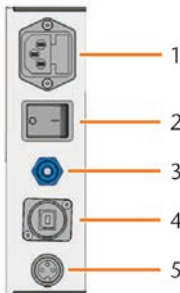

Fig. 2: The connection panel
- 1 Connection panel (⇒ Fig. 2)